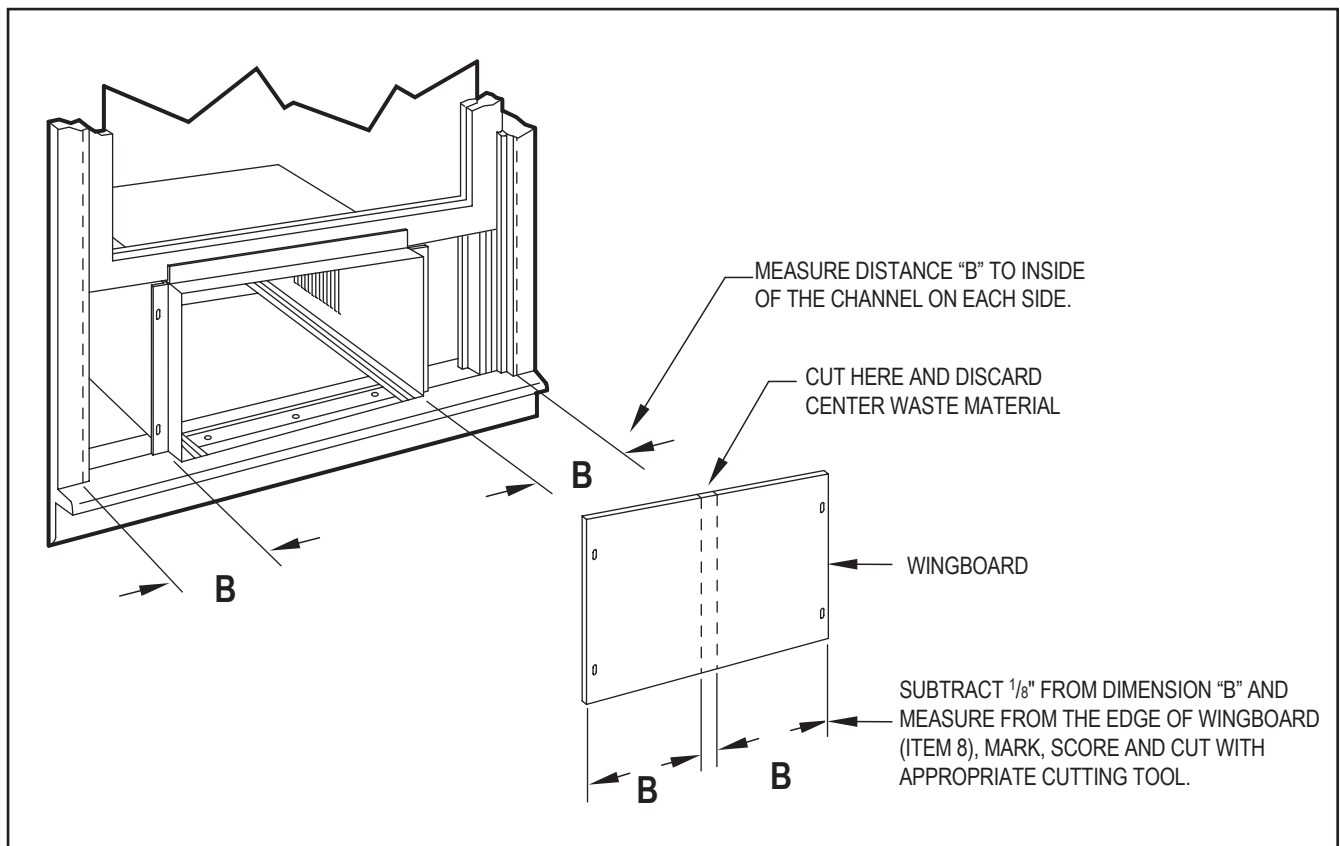

Figure C.4.11
STEP 8. Measure and cut the wingboard panels (fit with about $\frac{1}{8}$ " clearance) from the supplied Masonite (Item 8) to fit the space between the window side channels and cabinet (Figure C.4.11). Make sure you include the depth of the window channel.